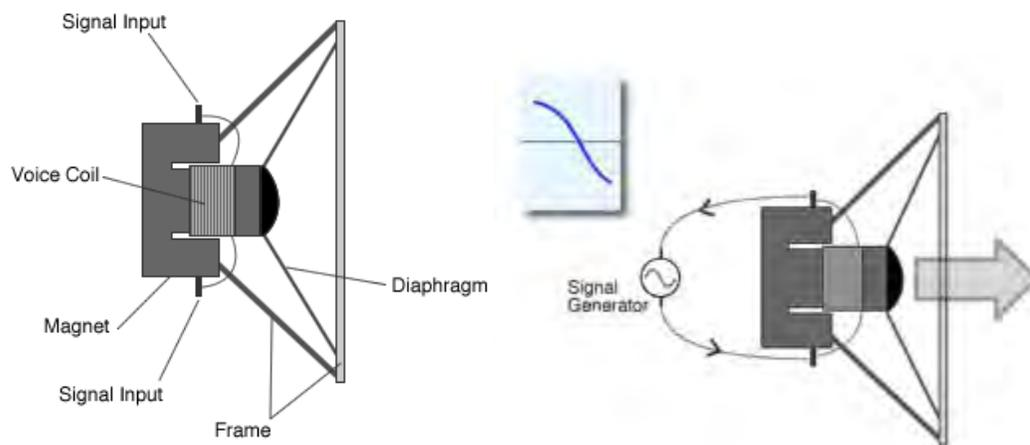

Figure 1. Elements of a speaker that lead to sound augmentation and, thus, transmission at a distance.
In the acoustics and music industries a major goal is to improve the distance at which sounds can be detected while maintaining sound quality in the variety of contexts where sound transmission is desired such as in radios, televisions, computers, intercoms and in auditoriums. Sounds are transmitted through a speaker, a simple electronic device that uses electromagnetism to produce vibrations that create sound pressure waves. Speakers are essentially very simple devices, consisting of only a few components. All speakers basically consist of a coil of wire (the voice coil), a magnet, a source of signal input, and a diaphragm or membrane that can vibrate, attached to a frame. See Figure 1 below for a schematic of a generalized speaker.
- For comparison to Figure 1, find and examine the speaker provided with this unit in the container labeled *Exercise 6: Bioacoustics*.